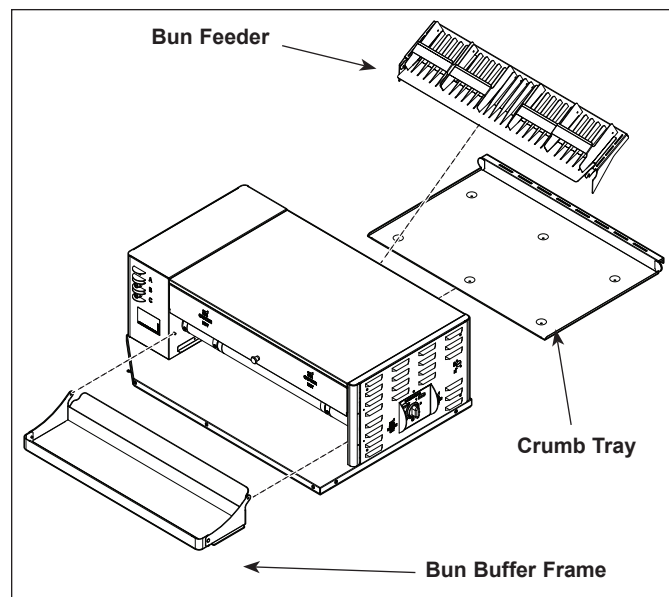

Figure 1. HCT-5H Components
2. Attach the Bun Feeder, Crumb Tray, and Bun Buffer Frame (Figure 1).